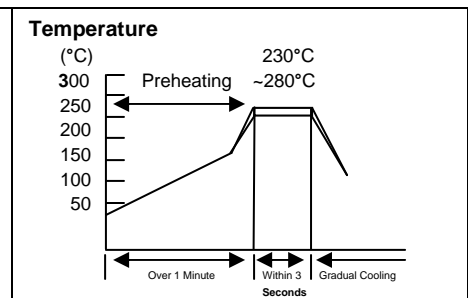

Figure 3. Hand Soldering
- (3) Soldering Iron: A Ceramic inductor attachment with a soldering iron is discouraged due to the inherent process control limitations. In the event that a soldering iron must be employed; the following precautions are recommended as shown in Figure 3.